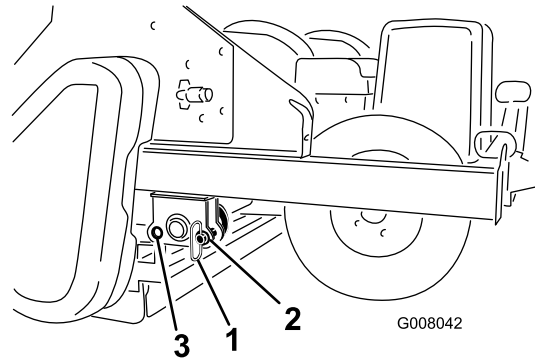

Figure 23
1. Remove the storage pins from the rear hole position (Figure 23).
2. Slowly lower the processor until it comes to rest on the rear roller and tires. Install the storage pins in the front hole position (Figure 23).